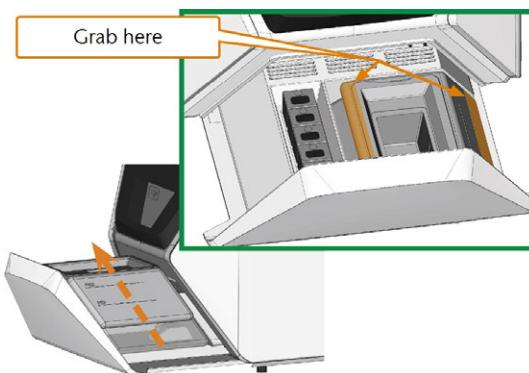

FIG. 36 REMOVING THE COOLING LIQUID TANK FROM THE MULTI-PURPOSE DRAWER
5. Grab the cooling liquid tank at the positions marked in the following figure. Pull it out of the drawer in the direction indicated by the arrow (*☞ Fig. 36 see below*).